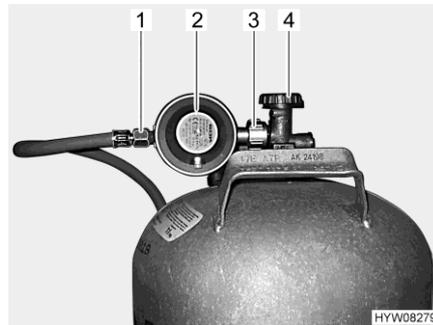

Fig. 87 Gas bottle connection
- Close the regulator tap (Fig. 87,4) on the gas bottle. Pay attention to the direction of the arrow.
- Hold the gas pressure regulator (Fig. 87,2) and open the knurled nut (Fig. 87,3) (normally a left-hand thread).
- Remove the gas pressure regulator and the gas tube (Fig. 87,1) from the gas bottle.
- Position the gas pressure regulator (Fig. 87,2) with gas tube (Fig. 87,1) on the gas bottle and tighten the knurled nut (Fig. 87,3) (normally a left-hand thread). **Do not** tighten too firmly.